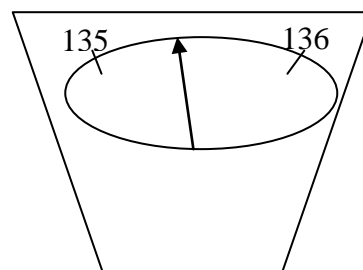

Figure 1 – Scale showing a mass between 135 and 136 lb. Note the lack of markings between 135 and 136.
Let's go back to the scale example. When you stand on the bathroom scale, the needle might point between 135 lb and 136 lb (as in figure 1 below). You know that you weigh more than 135 lb but less than 136 lb. The correct way to report this value is to report the known values (135) plus a guess ($135.\underline{4}$ ← the 4 is the guess).